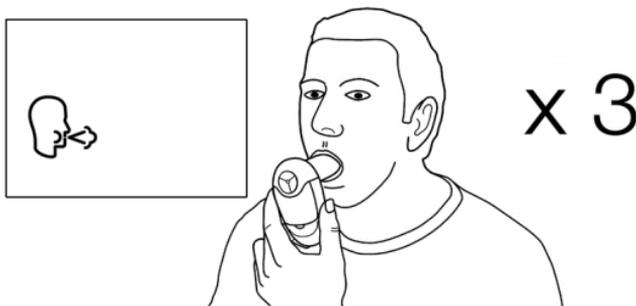

Figure 3. Holding device during test.
2. Turn the device on. ①
4. When the device is ready for a test (🔴), holding the head high, breathe in as deeply as possible, hold the Vitalograph Lung Monitor BT Smart ready in front of the mouth, see Figure 3.